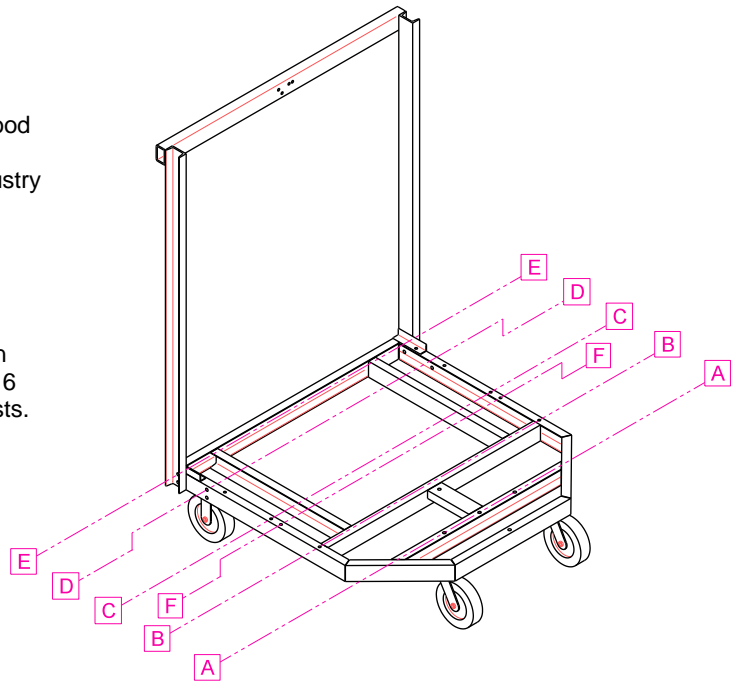

Figure 1 – Engine Stand Assembly Locations
1. Refer to **Figure 1**, the parts list, and Engine Application Chart. The 08-2001-0000 Engine Stand base has (six) 6 locations for mounting engine supports and upright posts. These positions are listed "A through F" Reference **Figure 1**. For proper assembly, installation and engine stand configuration, reference engine application chart for specific aircraft engines.